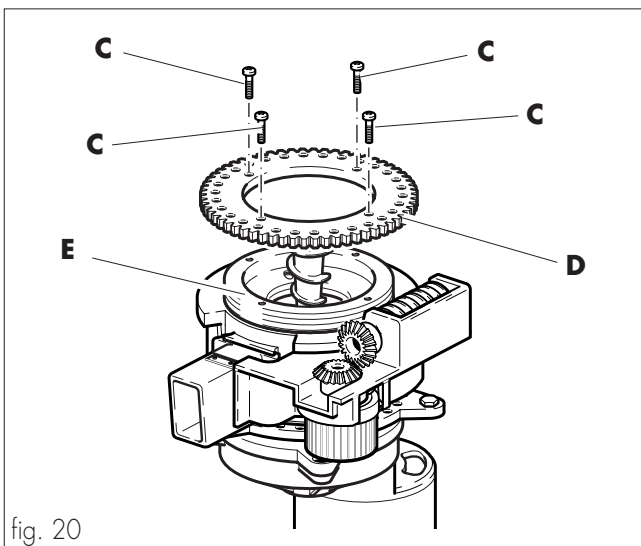

fig. 20
- Re-position the geared wheel (ref. **D**, fig. 20) and lock it by tightening the screws (ref. **C**, fig. 20).